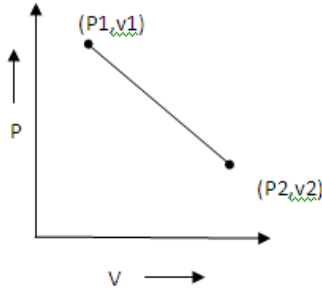

Fig. 1.7.State
A set of properties that completely describes the condition of a system is called the state of the system. At a given state, all the properties of a system have fixed values. If the value of even one properties changes, the state will change to a different one. At any instant of time the state is described by its properties such as pressure, temperature, volume etc. Properties when taken on axis to draw a graph they are termed as thermodynamic co-ordinates. At state (1) pressure and volume is (P_1, V_1) and state (2) Pressure & volume is (P_2, V_2) as shown in Fig 1.7